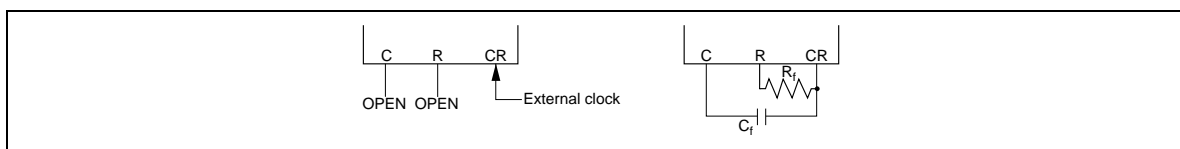
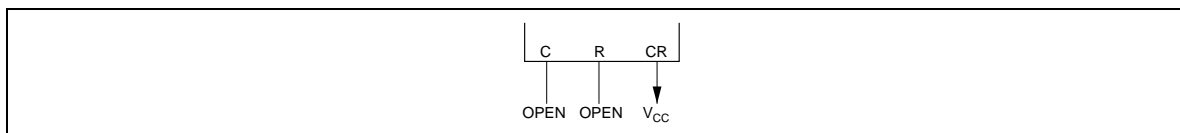

Figure 4 Oscillator Connection in Master Mode
Figure 5 Oscillator Connection in Slave Mode
- 1. CR Oscillator:** The CR oscillator generates the HD66503 operation clock. During master mode, since the operation clock is needed, connect oscillation resistor R_f with oscillation capacitor C_f as follows. When the external clock is used, input external clock to pin CR and open pins C and R (Figure 4). When using the HD66503 during slave mode, the operation clock will not be needed; therefore, connect pin CR to V_{cc} and open pins C and R (Figure 5).